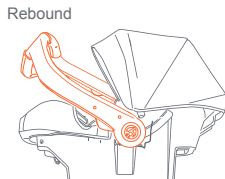

Fig. 49-3
11. Adjust carry handle to the correct position: **ONLY use Rebound Handle position in vehicle.** (Fig. 49-3).